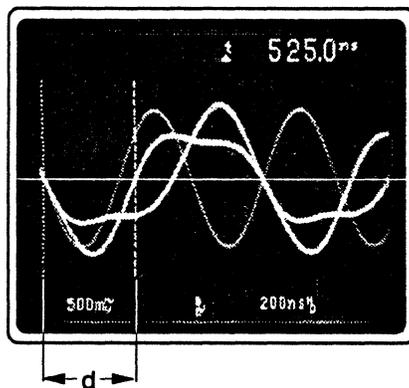

Figure 9.5 Read Channel Pulse Slimming Adjustment
- ① Select 60H data pattern using *Alt F8*
- ② Adjust the Pulse Slimming until the distance d - see Figure 9.5 - between the two ones (in 01100) of the data pattern is 525 ns for QIC-1000/53 ips, QIC-525 and 350 ns for QIC-1000/80 ips.